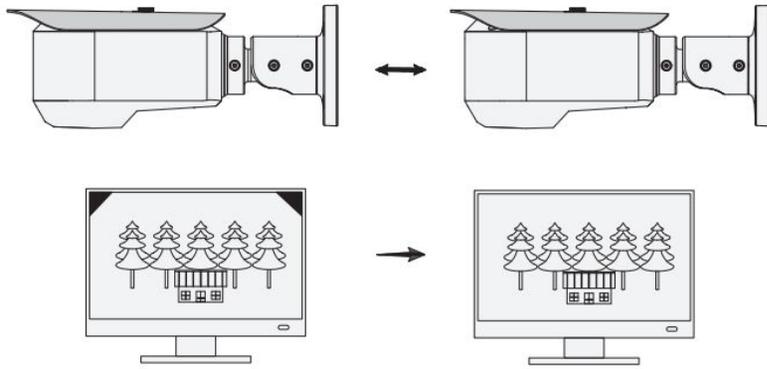

Figure 2-4
**Sun Shield:** Loosen the top screw to slide the sun shield forward and back depending on the lighting requirements. See Figure 2-4.